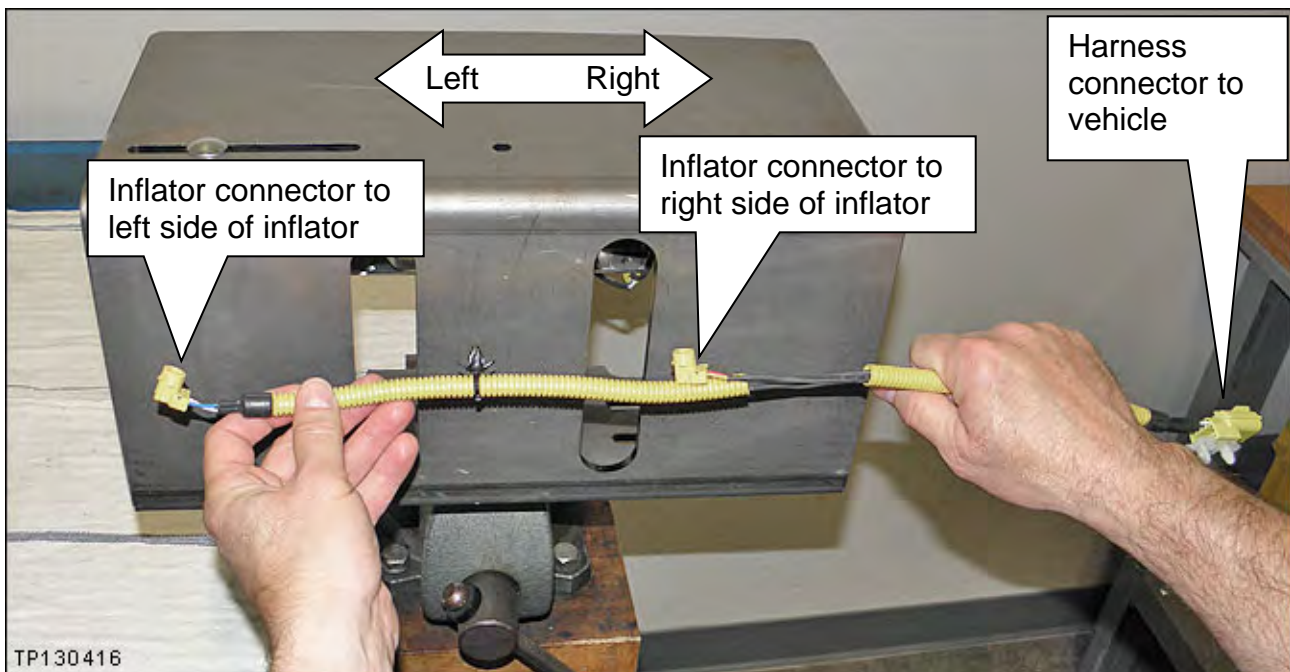

Figure 41
- **Make sure to attach the connectors to the correct ends of the inflator (see Figure 41).**
- Left / Right orientation is as shown in Figure 41.
- Make sure to attach the correct ends (see Figure 41 on the previous page).